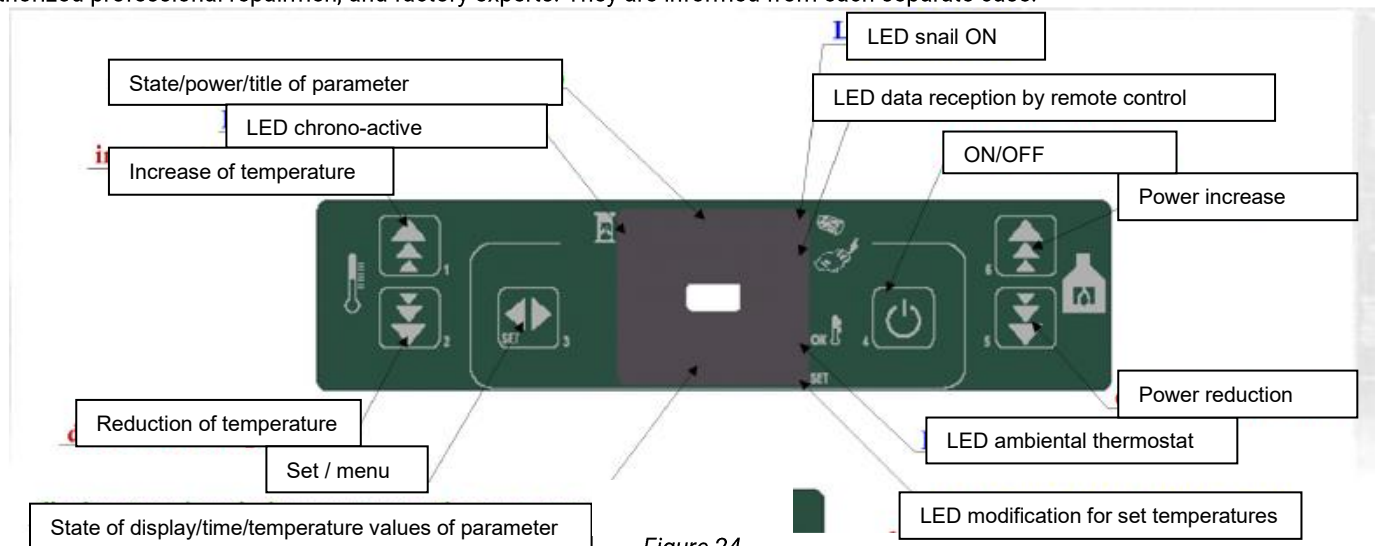

Figure 24
11.1. DESCRIPTION OF THE ELECTRONIC CARD (KEYBOARD) (figure 24)